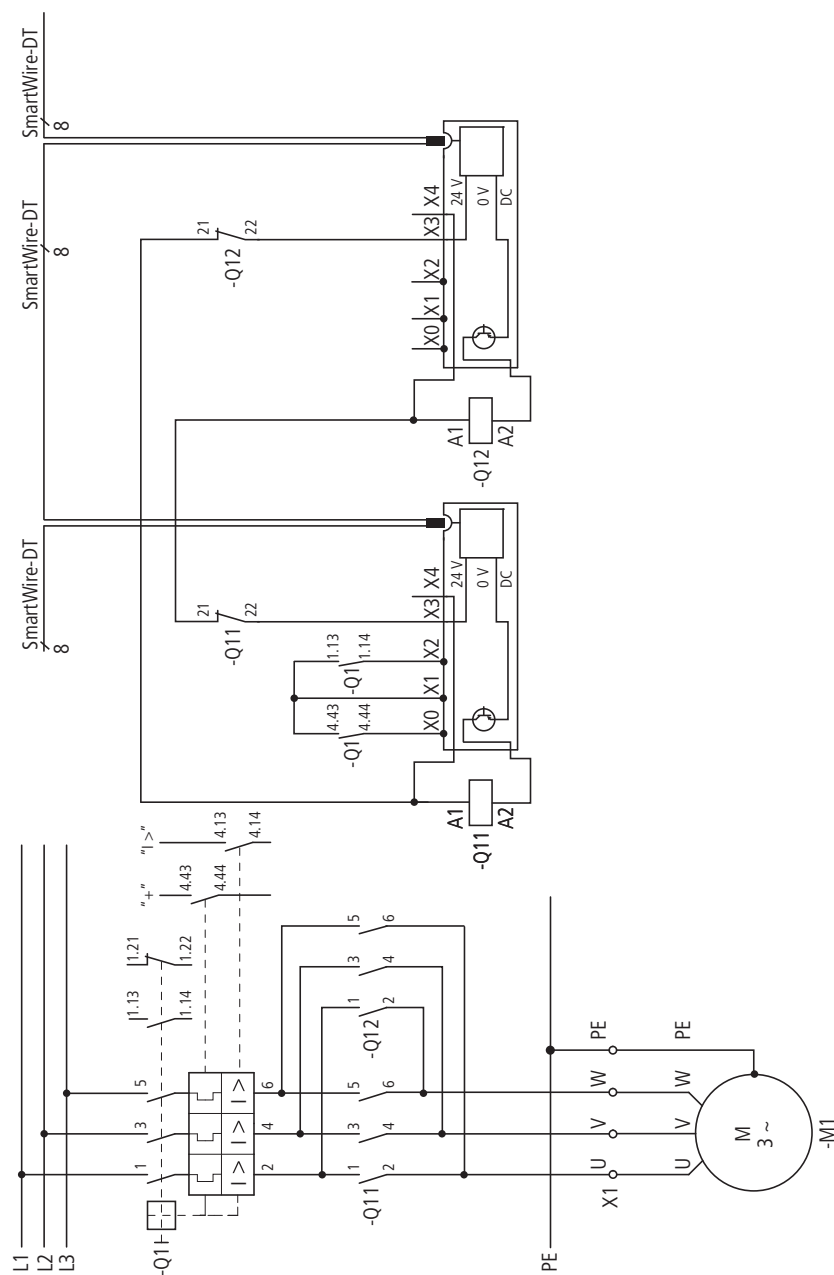
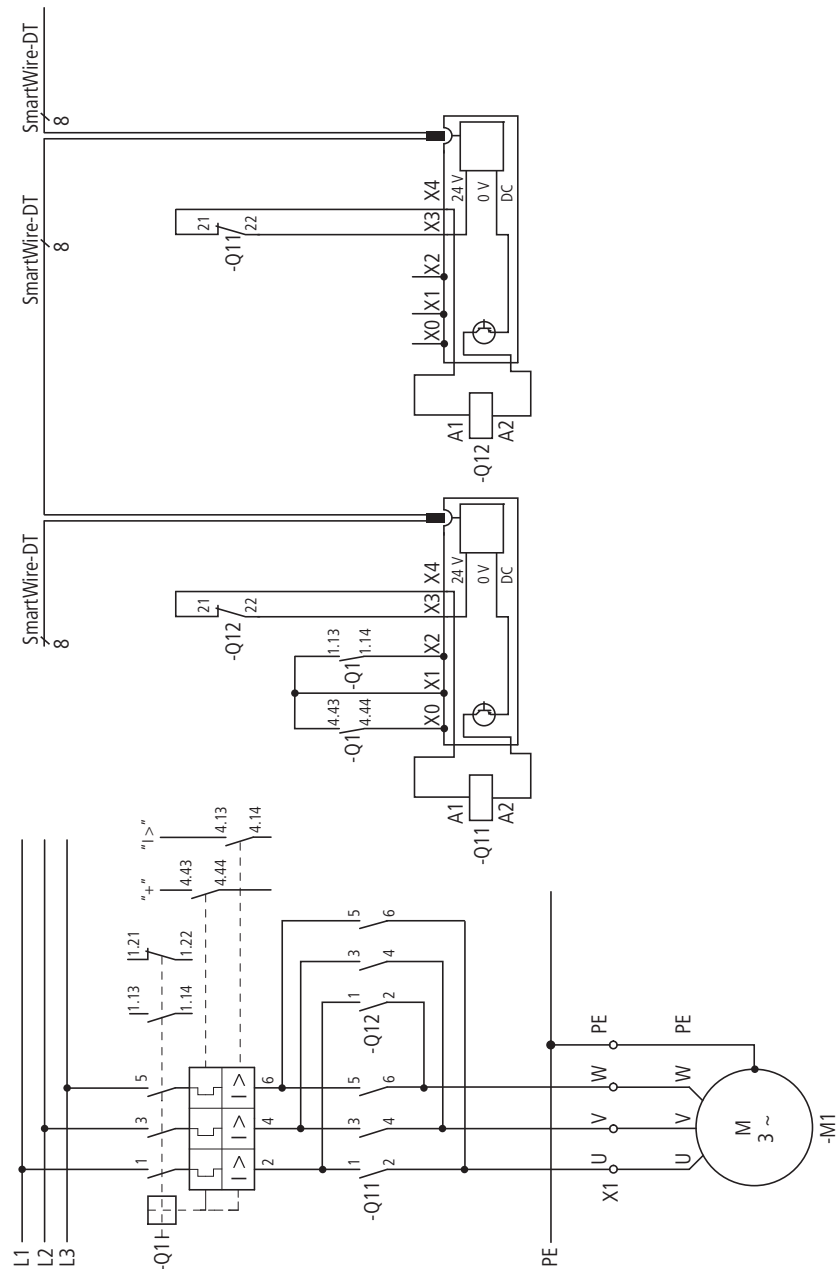

Figure 29: Circuit diagram of the reversing starter in combination with DILM12-XEV
Figure 30: Circuit diagram of the reversing starter
The "Enable" ⑧ auxiliary contact is factory fitted with a link, ➔ Figure 30. For the electrical interlocking of the two contactors this link is removed and the auxiliary breaker (contacts 21-22) of the other contactor is linked in as a potential-free contact.
In combination with the jumpers DILM12-XEV the circuit Fig. 29 should be used. On the other hand, an electrical interlock with wire jumpers should be implemented according to the circuit Fig. 30.
Besides the special features described in the foregoing subsection "Direct starters", it must be taken into account that reversing starters in the North American market must be equipped in addition with a mechanical and electrical locking device. The electrical locking is realized via the connection auxiliary contact "Enable" → Figure 30, ⑧.